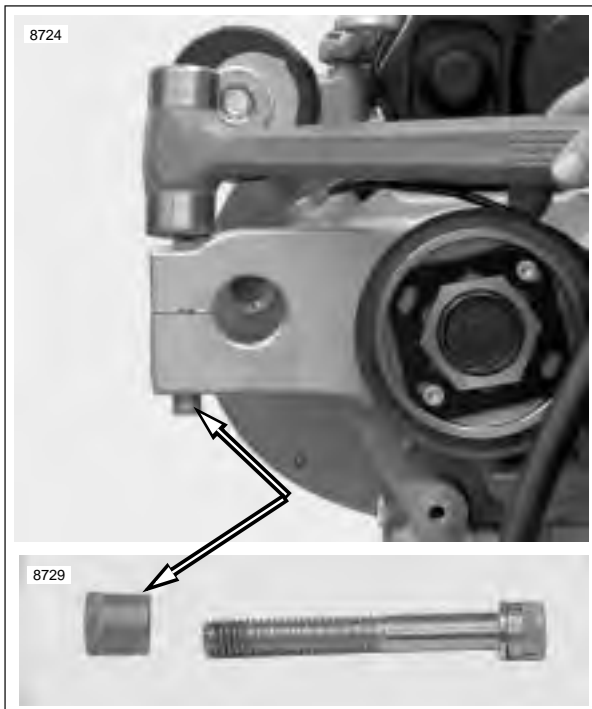

**Figure 3-26. Center Tie Bar Mount**
- b. See Figure 3-26. Center tie bar mount.